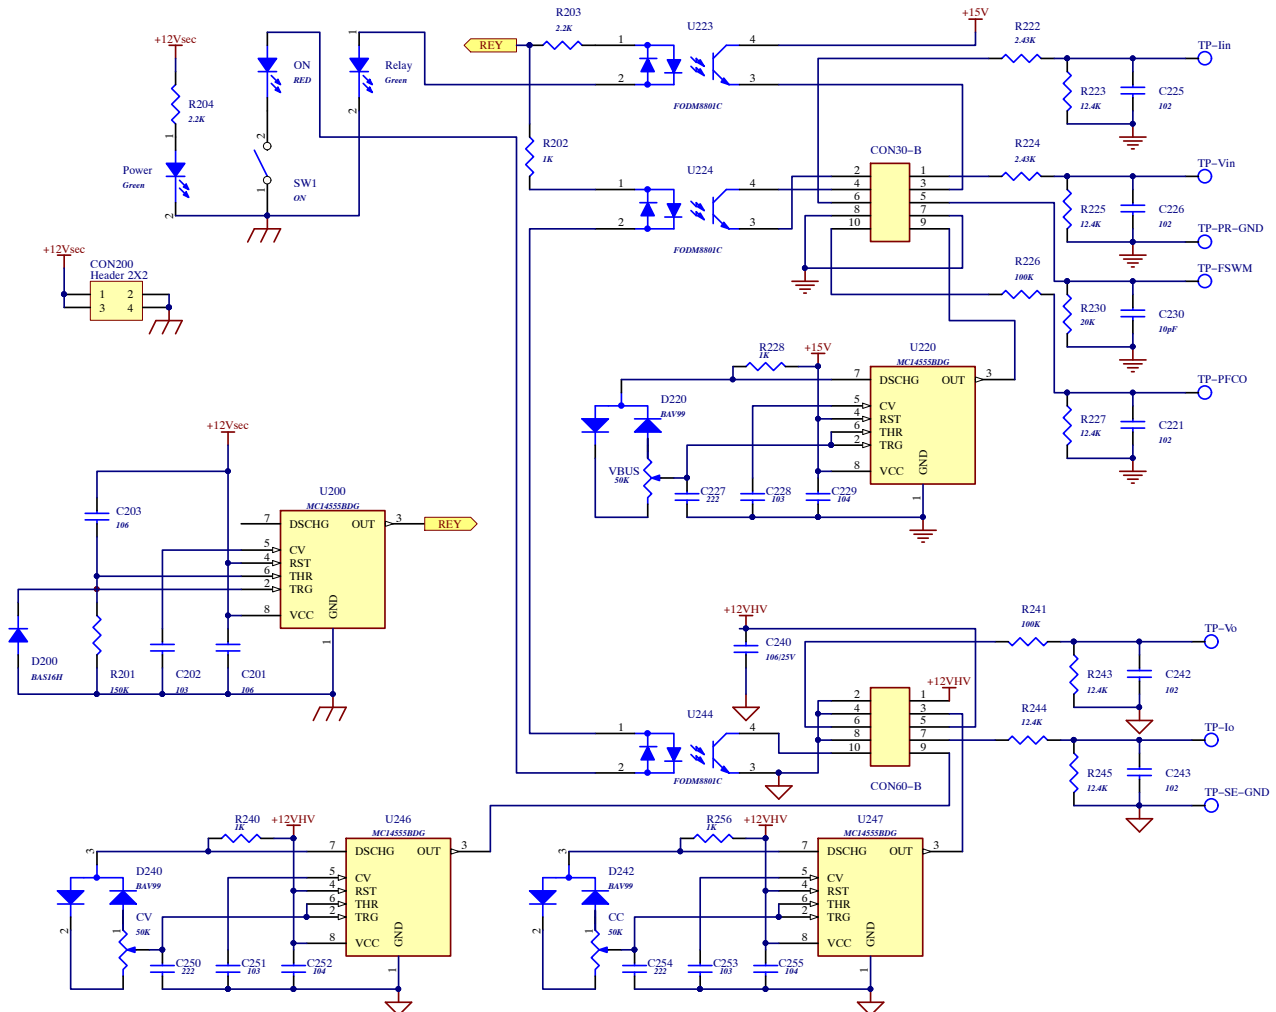

Figure 6. Schematic of the Manual Control Interface Board
In this design, we put the interface circuits on an add-on board for the flexibility. The features of the full function interface board could include the (1) Can communication with the BMS system to report the information like: Input voltage, Input current, Output voltage, Output current, Bus voltage, Output miss-connection, Temperature of the key components. (2) Can communication with the BMS to receive the following command: Power-up, Output voltage, Output current, Power off. (3) Output the CC, CV PWM signals and the power-on and relay-on signals to the main board. (4) Setting the Bus voltage according to the Vin, Vo and LLC switching frequency to get the maximum system efficiency. (5) Connect to Strata Developer Studio for evaluate the solution easily. But, the full function interface board is not ready so far. We use a simple manual control board instead of the full function one. Figure 6 shows the schematic of the manual control interface board.